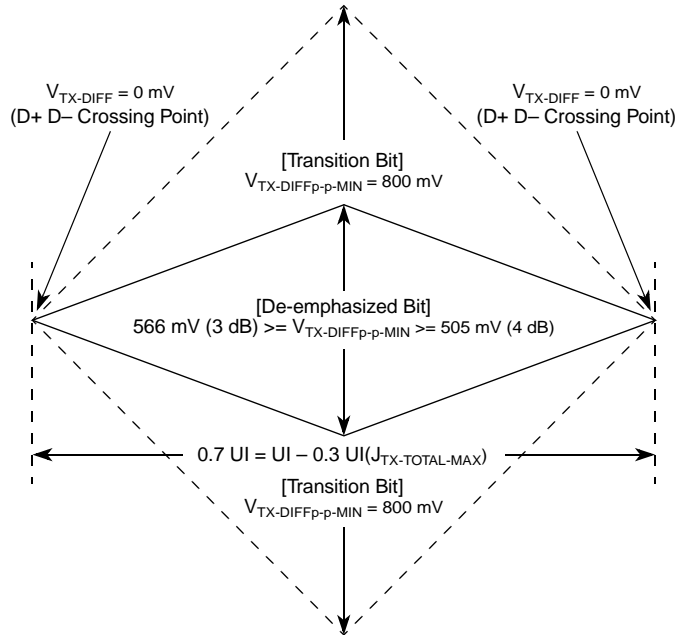
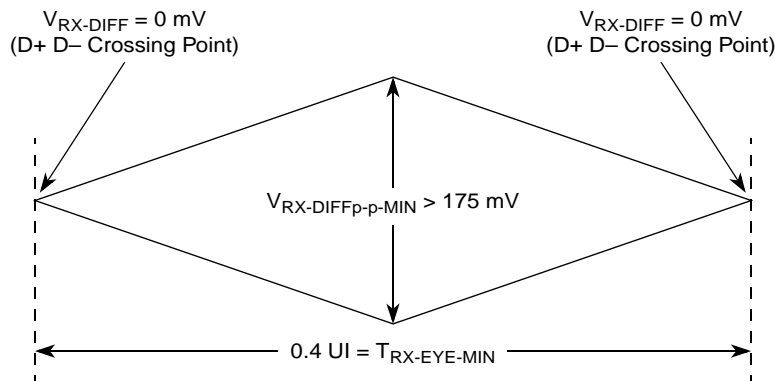
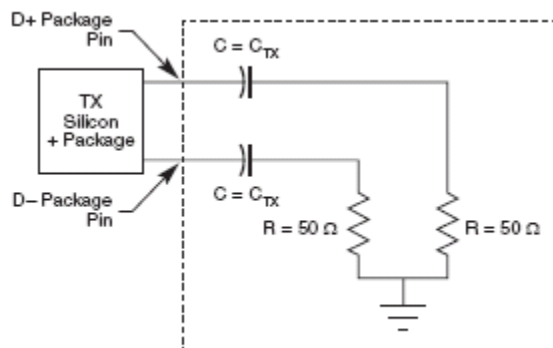

Figure 50. Minimum Transmitter Timing and Voltage Output Compliance Specifications
Figure 51. Minimum Receiver Eye Timing and Voltage Compliance Specification
Figure 52. Compliance Test/Measurement Load
2. Specified at the measurement point into a timing and voltage compliance test load as shown in Figure 52 and measured over any 250 consecutive TX UIs. (Also refer to the transmitter compliance eye diagram shown in Figure 50.)
4. The transmitter input impedance shall result in a differential return loss greater than or equal to 12 dB and a common mode return loss greater than or equal to 6 dB over a frequency range of 50 MHz to 1.25 GHz. This input impedance requirement applies to all valid input levels. The reference impedance for return loss measurements is 50 Ω to ground for both the D+ and D- line (that is, as measured by a vector network analyzer with 50- Ω probes, see Figure 52). Note that the series capacitors, C_{TX} , is optional for the return loss measurement.
5. Measured between 20%–80% at transmitter package pins into a test load as shown in Figure 52 for both V_{TX-D+} and V_{TX-D-} .
The TX eye diagram in Figure 50 is specified using the passive compliance/test measurement load (see Figure 52) in place of any real PCI Express interconnect + RX component. There are two eye diagrams that must be met for the transmitter. Both diagrams must be aligned in time using the jitter median to locate the center of the eye diagram. The different eye diagrams differ in voltage depending on whether it is a transition bit or a de-emphasized bit. The exact reduced voltage level of the de-emphasized bit is always relative to the transition bit.
- Specified at the measurement point and measured over any 250 consecutive UIs. The test load in Figure 52 should be used as the RX device when taking measurements (also refer to the receiver compliance eye diagram shown in Figure 51). If the clocks to the RX and TX are not derived from the same reference clock, the TX UI recovered from 3500 consecutive UI must be used as a reference for the eye diagram.
- The receiver input impedance shall result in a differential return loss greater than or equal to 15 dB with the D+ line biased to 300 mV and the D- line biased to -300 mV and a common mode return loss greater than or equal to 6 dB (no bias required) over a frequency range of 50 MHz to 1.25 GHz. This input impedance requirement applies to all valid input levels. The reference impedance for return loss measurements for is 50Ω to ground for both the D+ and D- line (that is, as measured by a vector network analyzer with $50-\Omega$ probes, see Figure 52). Note that the series capacitors, C_{TX} , is optional for the return loss measurement.
The RX eye diagram in Figure 51 is specified using the passive compliance/test measurement load (see Figure 52) in place of any real PCI Express RX component. In general, the minimum receiver eye diagram measured with the compliance/test measurement load (see Figure 52) is larger than the minimum receiver eye diagram measured over a range of systems at the input receiver of any real PCI Express component. The degraded eye diagram at the input Receiver is due to traces internal to the package as well as silicon parasitic characteristics which cause the real PCI Express component to vary in impedance from the compliance/test measurement load. The input receiver eye diagram is implementation specific and is not specified. RX component designer should provide additional margin to adequately compensate for the degraded minimum Receiver eye diagram (shown in Figure 51) expected at the input receiver based on an adequate combination of system simulations and the return loss measured looking into the RX package and silicon. The RX eye diagram must be aligned in time using the jitter median to locate the center of the eye diagram.
The reference impedance for return loss measurements is 50 Ω to ground for both the D+ and D- line (that is, as measured by a Vector Network Analyzer with 50 Ω probes—see Figure 52). Note that the series capacitors, $C_{PEACCTX}$, are optional for the return loss measurement.
The AC timing and voltage parameters must be verified at the measurement point, as specified within 0.2 inches of the package pins, into a test/measurement load shown in Figure 52.